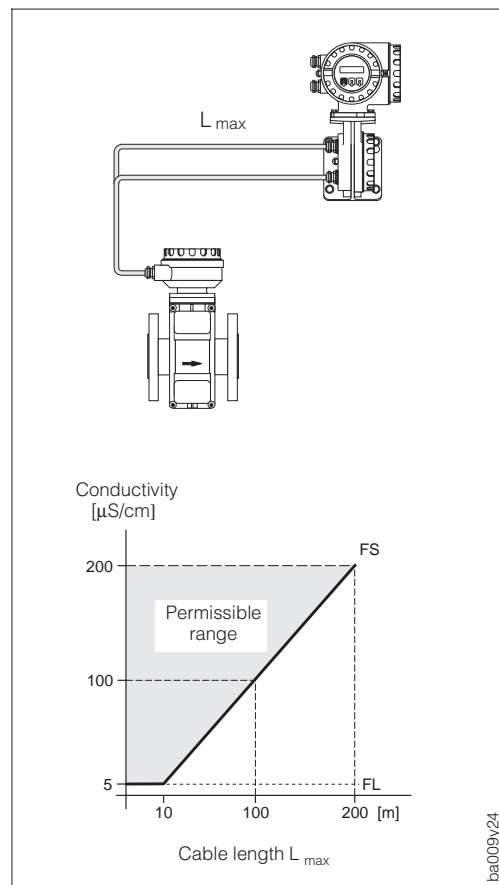

Fig. 19
- The permissible length of cable  $L_{\max}$  of more than 10 m is governed by the conductivity of the fluid (see Fig. 19).
- All fluids with a minimum conductivity of  $\geq 5 \mu\text{S/cm}$  (demineralised water  $\geq 20 \mu\text{S/cm}$ ) can be measured. This is not dependent on the distance between transmitter and sensor (see Fig. 19).